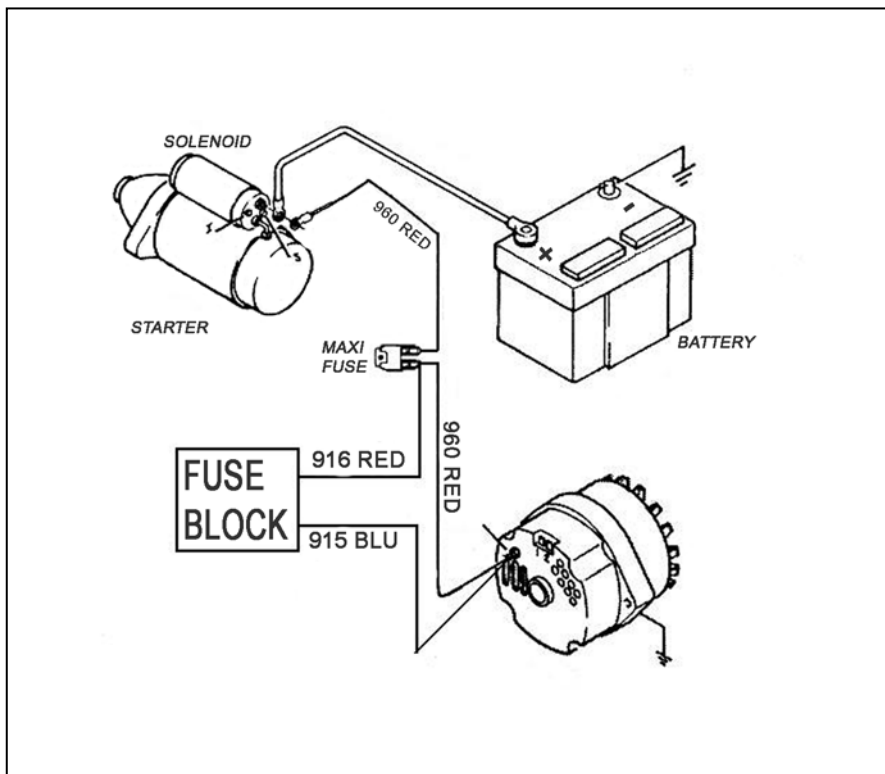

Figure 7-1B High Output Wire
- CAUTION:** IF USING AN ALTERNATOR WITH AN OUTPUT LARGER THAN 65 AMPS, YOU WILL ALSO NEED TO USE JUMPER WIRE #960 (RED), INCLUDED IN BOX. THE WIRE END WITH THE RING TERMINAL AND RUBBER BOOT WILL CONNECT TO THE ALTERNATOR OUTPUT LUG. ROUTE THE OTHER END TO THE STARTER. CUT THE WIRE AND CRIMP ON A RING TERMINAL. INSTALL ON SAME TERMINAL OF MAXI FUSE AS #916 RED. SEE FIGURE 7-1B.
- 7.1.3** Connect a 14-gauge wire from the Alternator terminal where wire #914 is connected to either of the ELECTRONIC Voltage Regulator terminals OR terminal (I) of the MECHANICAL Voltage Regulator. On existing Mopar harnesses, this would be a blue wire.